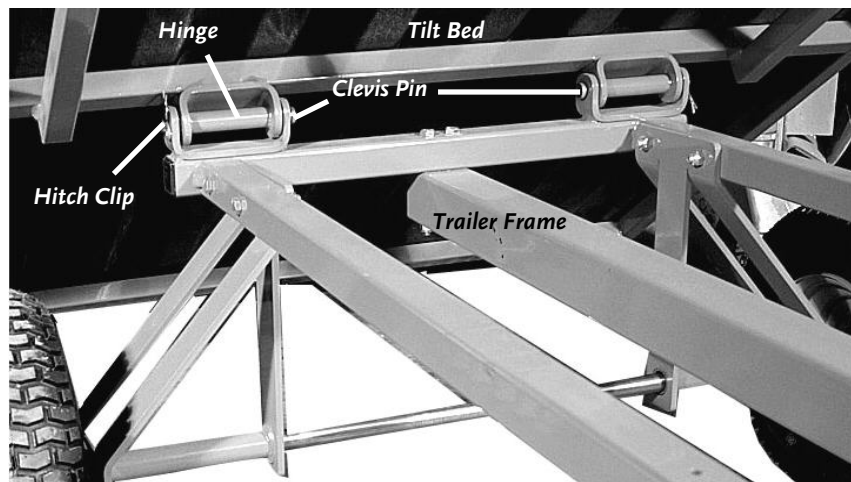

Figure 7
2. Align the left Hinge on the Tilt Bed with the left Hinge on the Trailer Frame (**Figure 7**).
3. Insert a Clevis Pin through the mated Hinges and secure with a Hitch Clip (**Figure 7**).